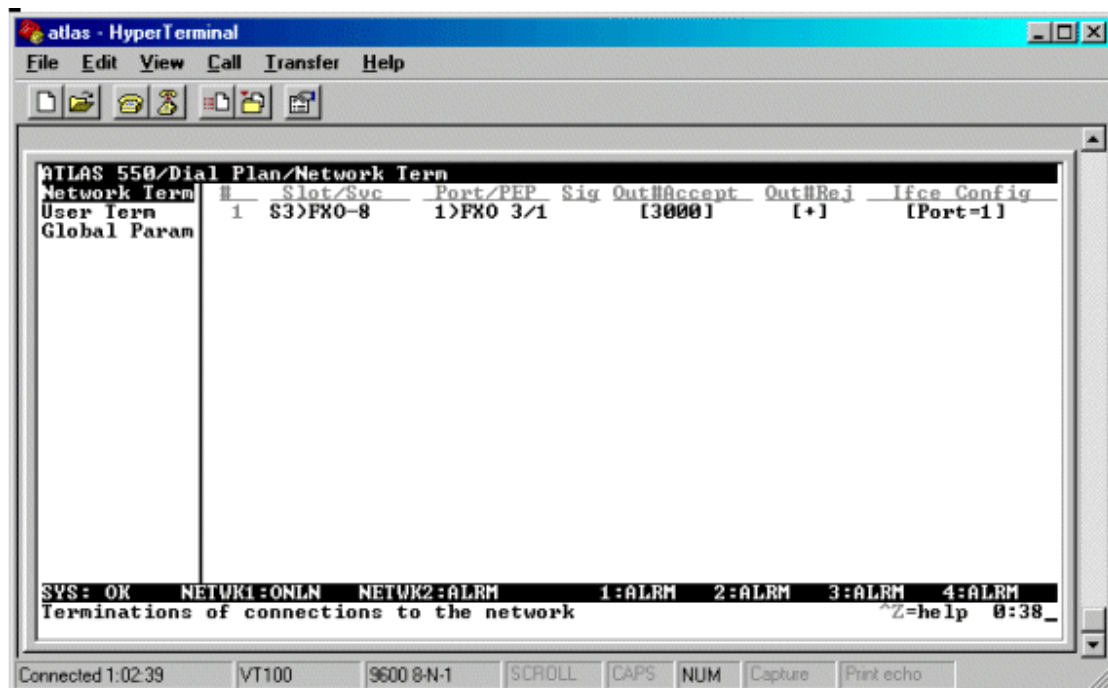

Figure 10
The **Dial Plan** will contain the configuration necessary to compress and uncompress the voice as well as route the voice calls based on the digits dialed. First we will configure the FXO module that will connect to the PBX. This needs to be configured in **Dial Plan/Network Term** as shown in **Figure 10**.
- Press >esc&lt; until you are back to the screen shown in **Figure 10**.